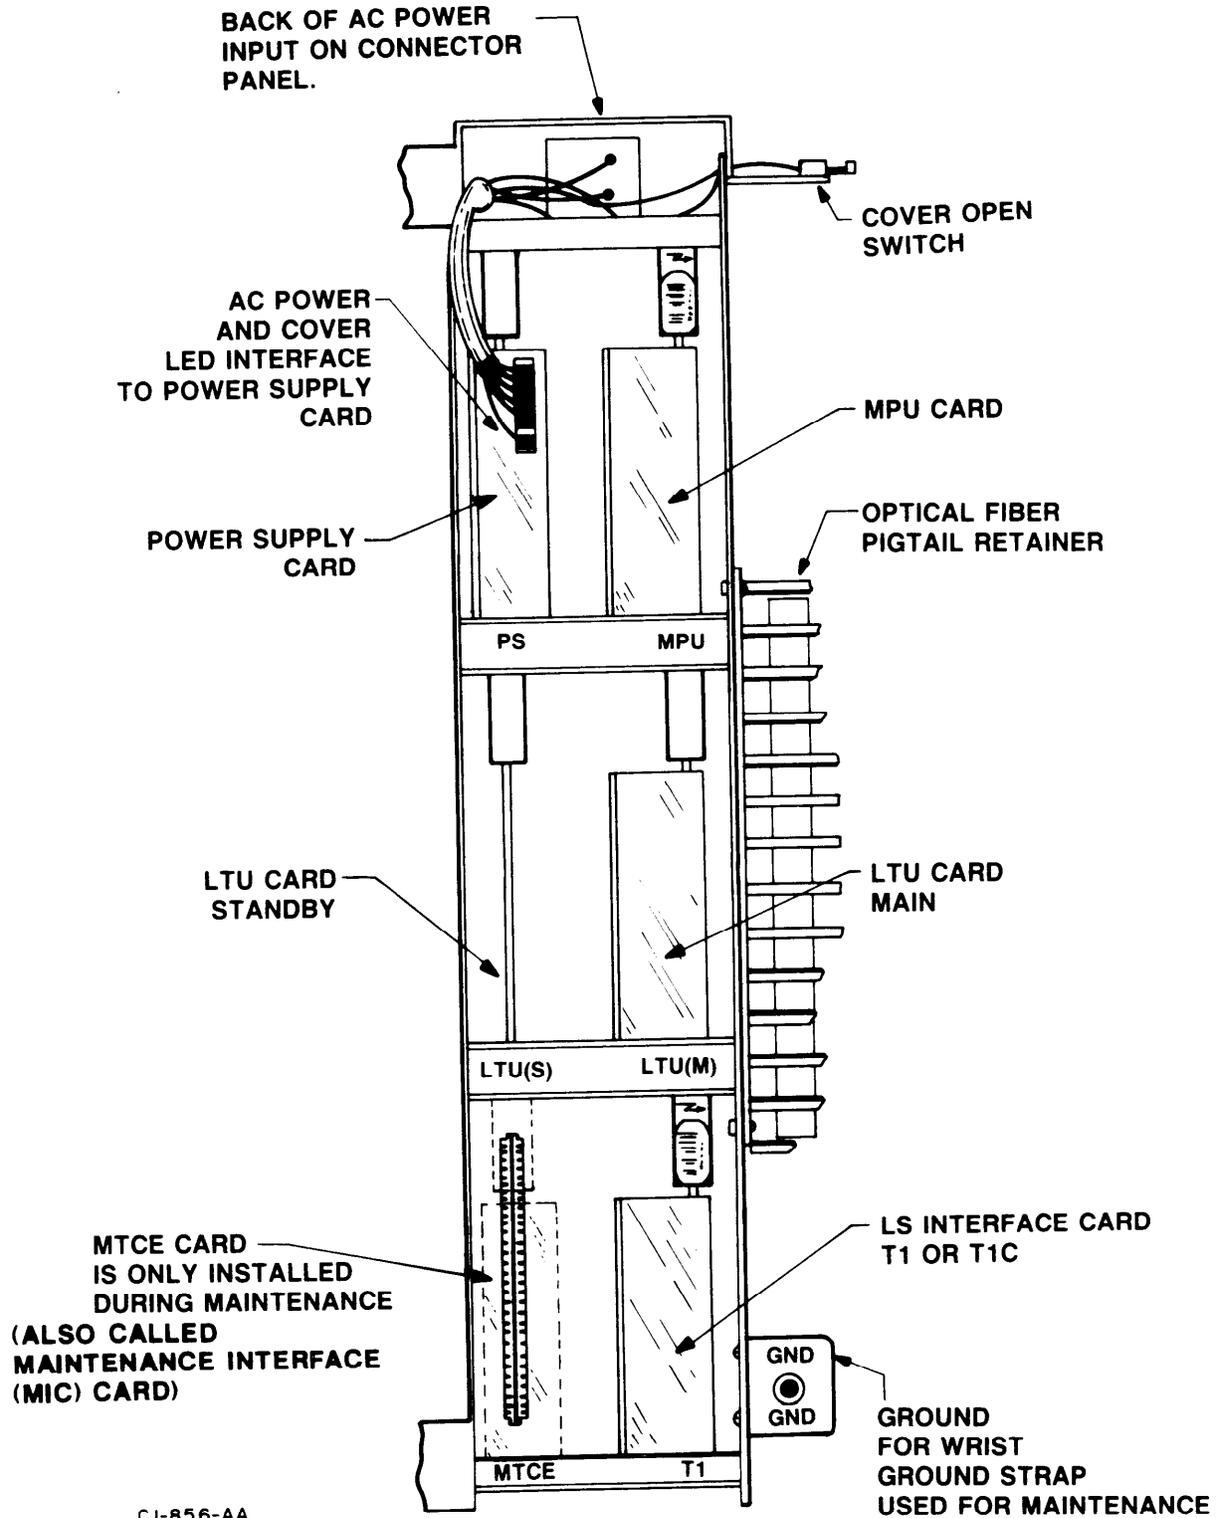

Figure 1. FOX-2 Card Cage Drawing
2.01 TABLE A provides a list of all assemblies and their part numbers. Figure 1 shows card complement of the FOX-2. This cage parts list contains all assemblies needed for the FOX-2, part of a FOX-2 to 828 installation, or a FOX-2 to FOX-2 installation.